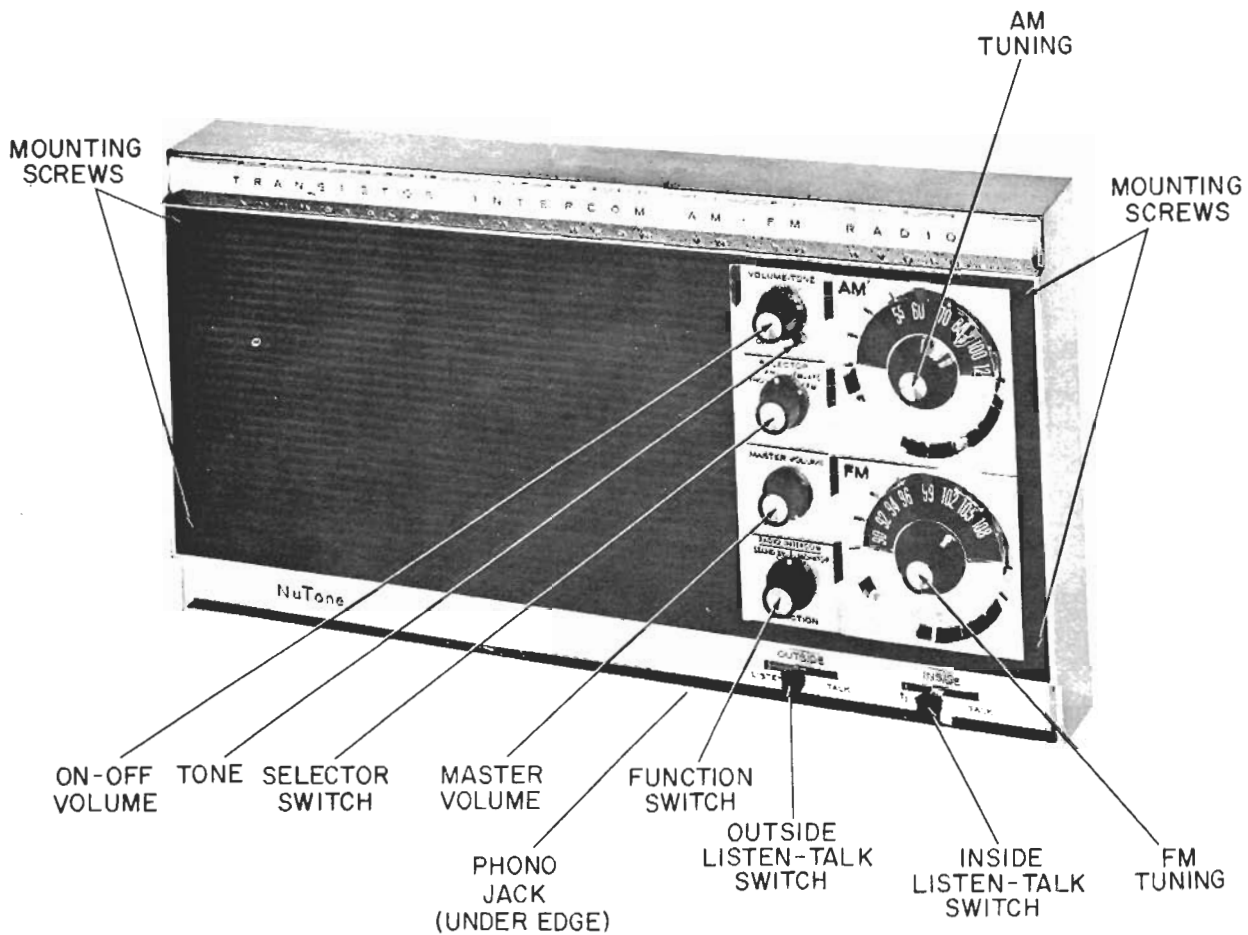

Fig. 1. Master station front panel.
2. Remove four (4) front panel mounting screws (Fig. 1).